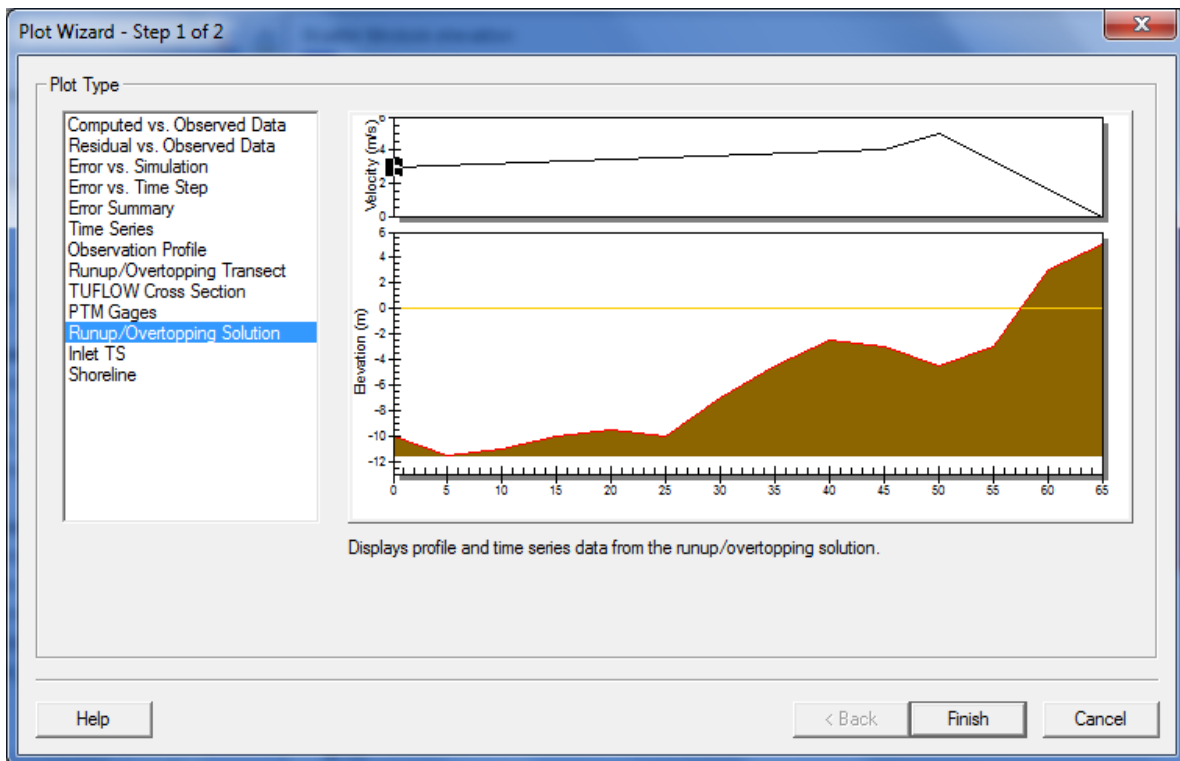

Figure 15 Step 1 of plot wizard to view Runup/Overtopping results.
2. When the wizard appears (Figure 15), choose the “Runup/Overtopping Solution” option and click “Finish”.